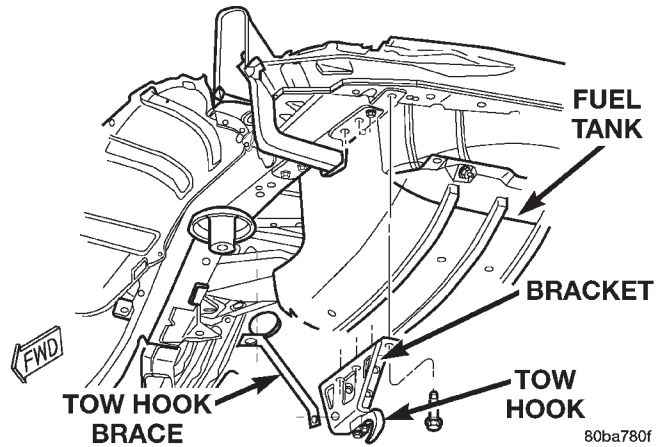

Fig. 4 Rear Tow Hook
- (1) Remove rear tow hook to frame brace.
- (2) Remove bolts attaching the tow hook bracket to frame (Fig. 4).
- (3) Separate tow hook bracket from frame.